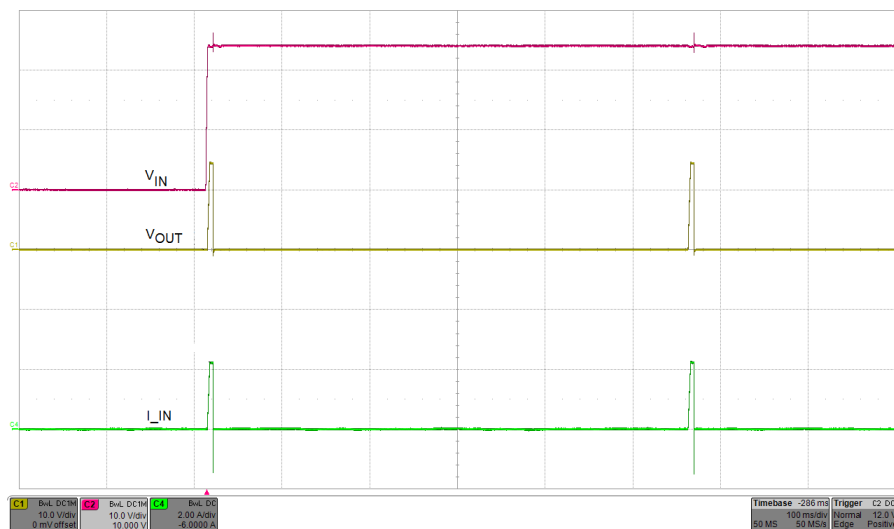

Figure 4-6. J5/J12 = Floating, Current Limit (2.23 A), Circuit Breaker With Auto-Retry Mode
- Enable the power supply and verify the circuit breaker with auto retry fault response waveform as shown in Figure 4-6.